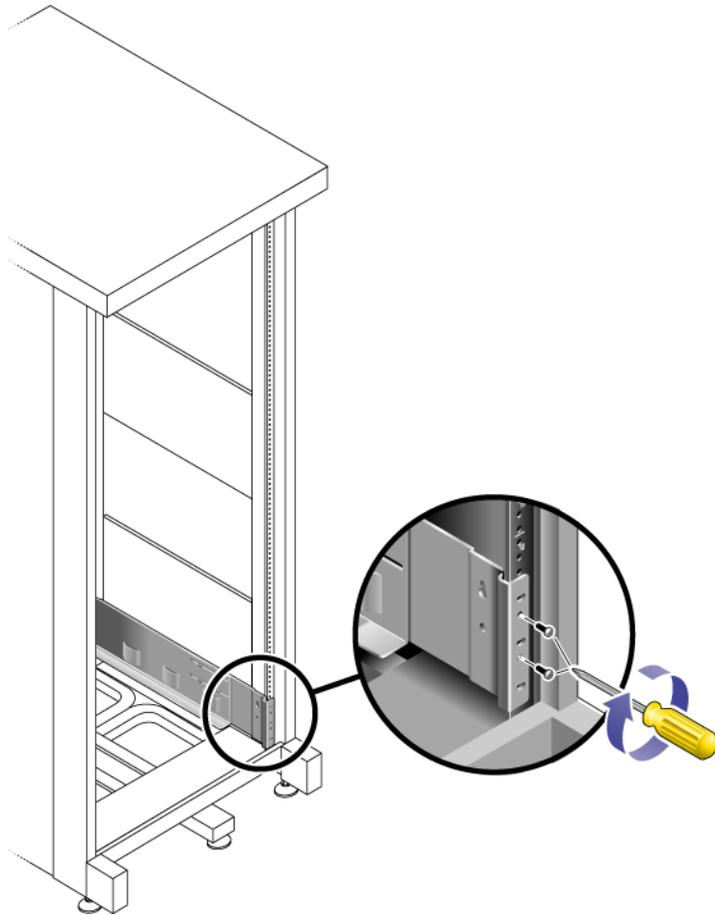

FIGURE 2-5 Securing the Left Rail to the Back of the Cabinet
6. **Depending on the type of cabinet you have, do one of the following (FIGURE 2-5):**